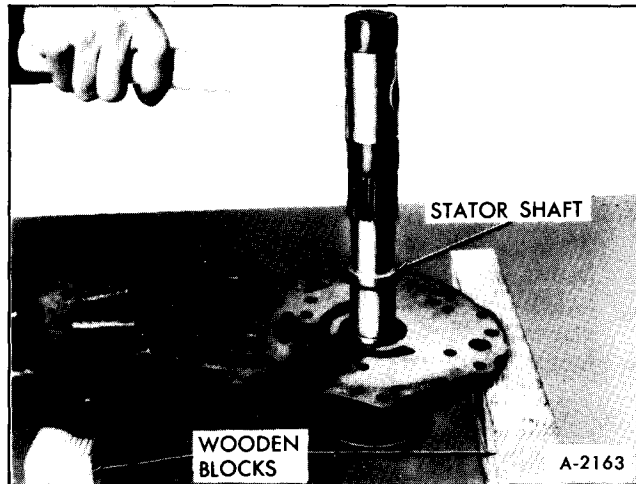

Figure 38—Removing Drive Sprocket Support
- b. Support cover plate on wooden blocks and using a plastic mallet, vigorously strike the stator shaft of the drive sprocket support, Figure 38, and the hub of the driven sprocket support, until they are removed from their pump cover plate bores.